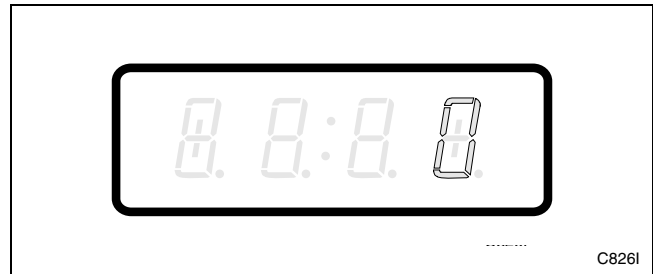

Figure 25
4. When “+005” appears in the VFD, press the START (enter) keypad. There are five digits in the Site Code #1 Hot Wash Vend Price. The fifth digit will appear in the VFD and will flash one second on, one second off. Refer to *Figure 25*.